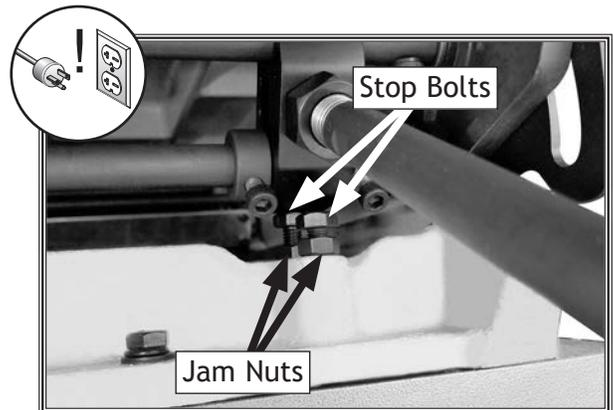

Figure 47. Location of outfeed table stop bolts and jam nuts.
4. Loosen outfeed table lock located at front of machine, and loosen jam nuts and positive stop bolts located at side of machine just below outfeed table (see Figure 47).